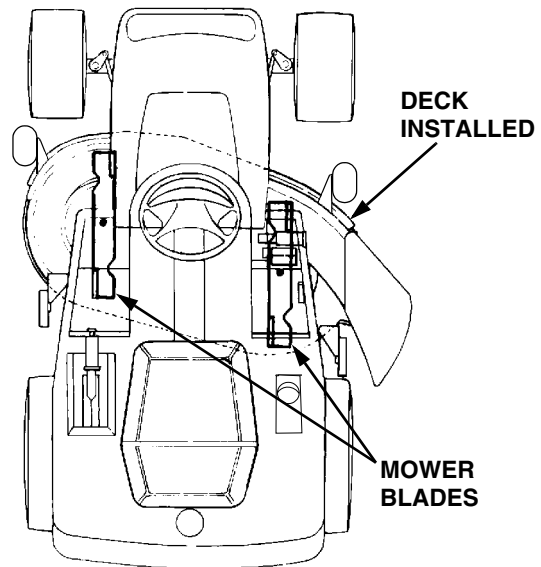

Figure 31
2. Position the mower blades so the ends of each blade point to the front and the rear of the tractor (See Figure 31).